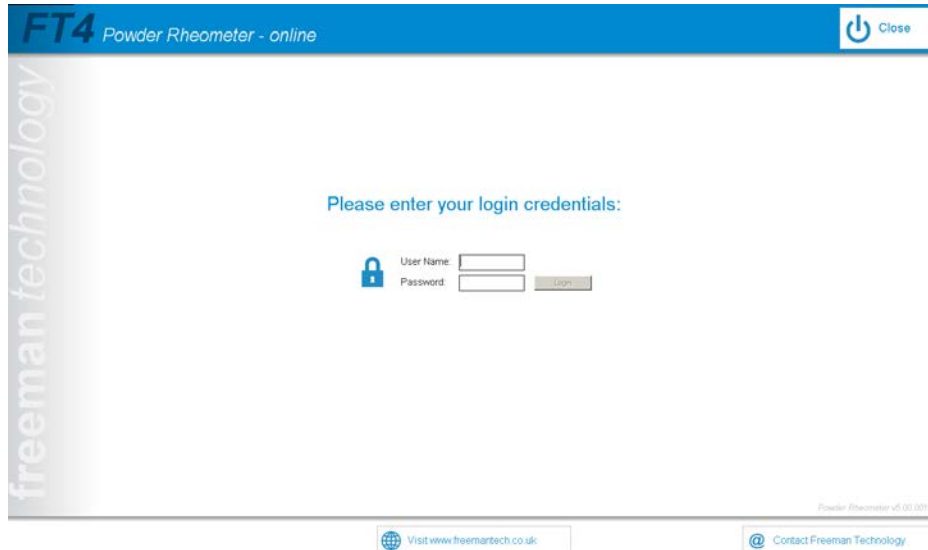

Figure 1 - Log on Screen
- After double clicking on the Powder Rheometer icon the log on screen should appear, please see Figure 1 on following page.